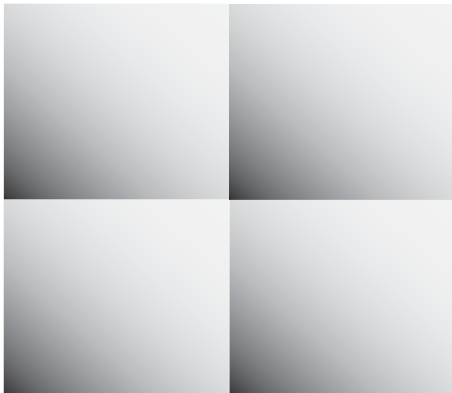

Figure 15
2. Figure 15 is a combination of masking and varying shades. This spraying exercise trains the eye to make sure each square has the same tone value. Repeat the spraying method described in steps 1a-1c to achieve the same tone value.